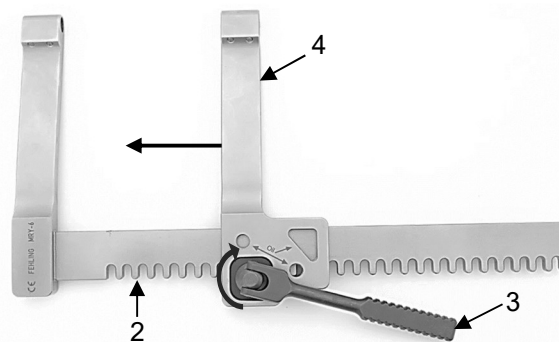

Fig. 17
Ensure that both retractor arms point in the same direction as shown in Figure 17.
By rotating the drive lever (3) clockwise, transport the movable retractor arm (4) on the toothed rack (2) inwards towards the fixed retractor arm (1) (Fig. 17).